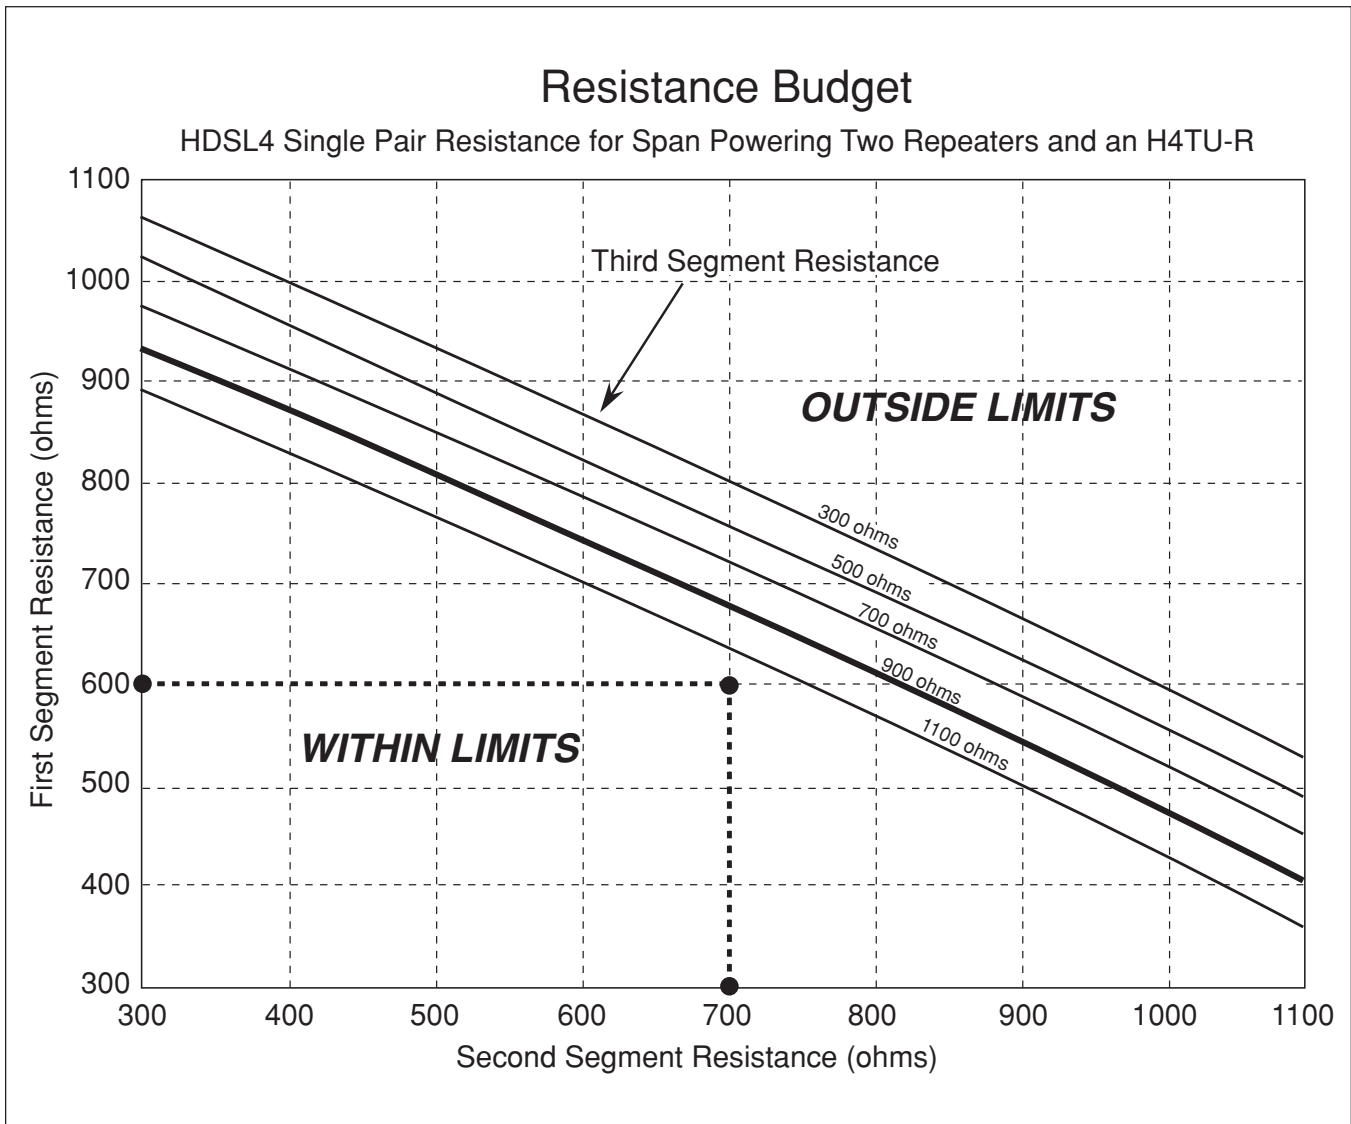

Figure 25. Resistance Budget Span Powering Two Repeaters (Example)
An example problem is illustrated in **Figure 25**. For this example, begin with three known measurements: 600 ohm first segment resistance, 700 ohm second segment resistance, and 900 ohm third segment resistance. Refer to Figure 25 and the following steps to solve the example problem:
- a) Find the 900 ohm third segment resistance line on the graph. This line is depicted in bold in Figure 25. This line is the upper span power limit.